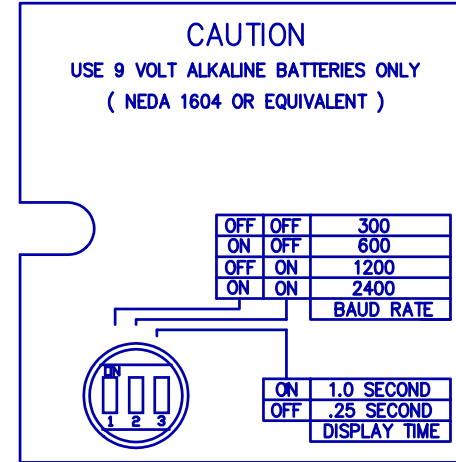

Figure 4. Battery Compartment Internal Switches.
- PRINT** - Pressing the PRINT button causes serial ASCII data to be transmitted from the print jack at appropriate RS-232 levels. This data may be sent to a serial printer or a computer. The baud rate is determined by two switches located in the battery compartment. (See Figure 4, Battery Compartment Internal Switches, for switch settings).
There is an internal switch located in the battery compartment that is accessible to the user. (Refer to Figure 4.)